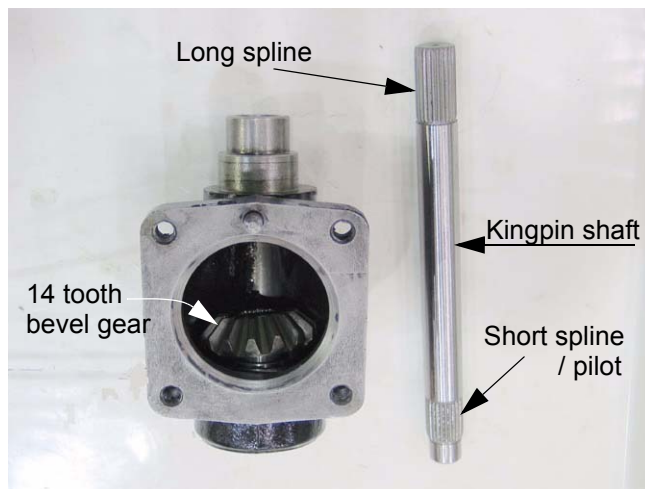

Figure 8.4
8.4. With the kingpin shaft removed, the 14 tooth bevel gear can be removed. See Figure 8.4.